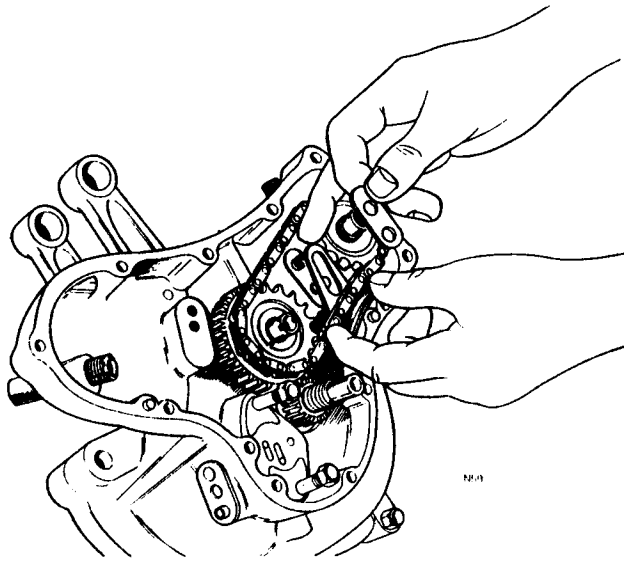

Fig. C38 Chain tensioner - assembly
- 7 Assemble the chain tensioner as shown in *Fig. C38*. The Mark III tensioner blade now has a neoprene covering and the clamp plates (which previously differed) are common and interchangeable.